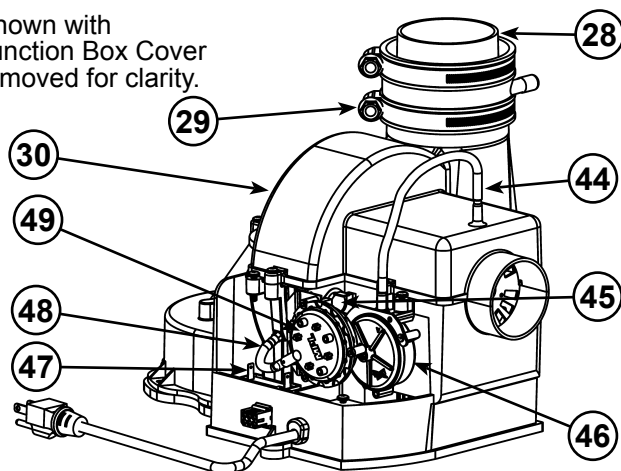

Figure 5.
| 8 T&P Valve | 25 Baffle Assembly | 44 Air Tubing (Intake) (see Figure 5) |
| 9 * Discharge Pipe | 26 Hot-Water Outlet Nipple/Anode | 45 Blower High Limit Switch (see Figure 5) |
| 10 **Combo Heating System Return Inlet (Optional) | 27 *Inlet Water Shut-off Valve | 46 Intake Air Pressure Switch (NC) (inside box) (see Figure 5) |
| 11 Gas Control Valve/Thermostat (Honeywell) | 28 ***Rubber Coupling (see Figure 5) | 47 Capacitor (see Figure 5) |
| 12 Gas Valve Electronic Control Module And Cover (Honeywell) | 29 Gear Clamp (see Figure 5) | 48 Air Tubing (Exhaust) (see Figure 5) |
| 13 Drain Valve | 30 ***Blower with Power Cord (see Figure 5) | 49 Exhaust Air Pressure Switch (NO) (inside box) (see Figure 5) |